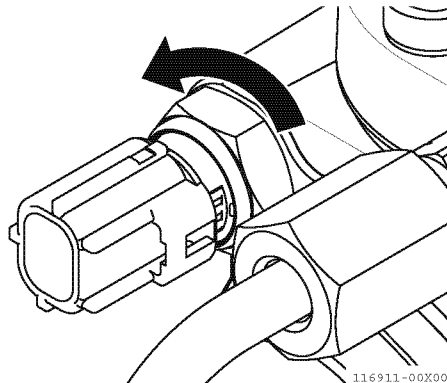

Fig.50-32
- 2 - Slightly turn the fuel temperature sensor counterclockwise to loosen it, loosen the fuel temperature sensor by turning it counterclockwise (Fig.50-32) then clean the fastening location again. (This is done to remove any paint chips or other foreign matter generated when the bolts were loosened.) When loosening the fuel temperature sensor, use a wrench or similar tool and place it securely on the hexagon nut.